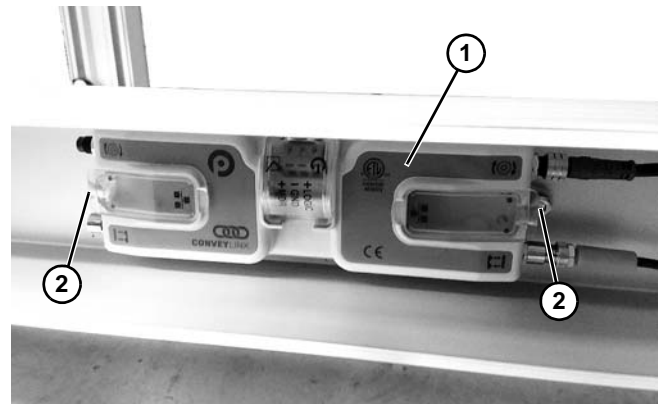

Figure 7
8. Locate positions of controller(s) (**Figure 7, item 1**) in motor control enclosure. Mark holes (**Figure 7, item 2**) needed for drilling.